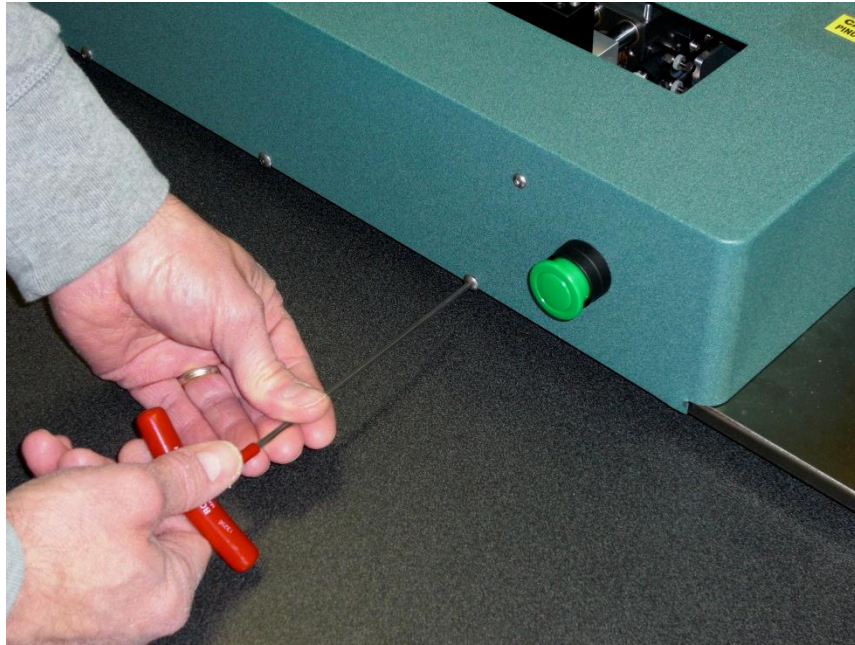

Figure 23: Removing the cover screws
- Loosen the six (6) 5mm button-head screws on either side of the cover. (Figure 23)